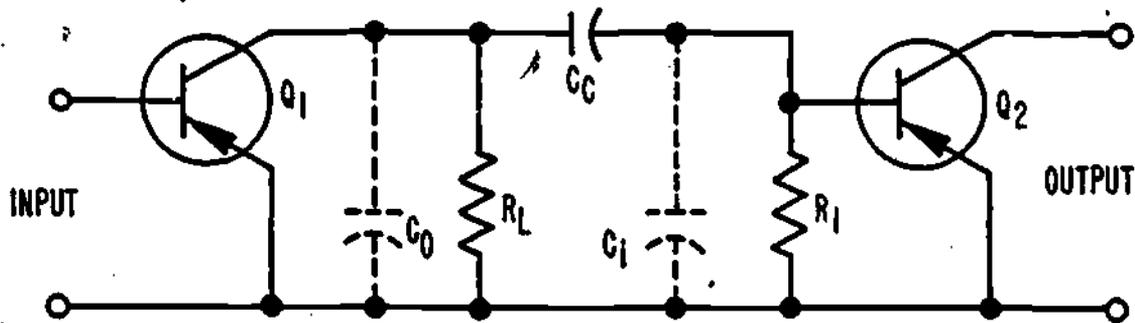

Figure 11
10. How do stray capacitors limit gain at high frequencies? Refer to the amplifier circuit shown in Figure 11.
In Figure 11, the (high/low) reactances of  $C_o$  and  $C_i$  shunt the high signal frequencies to ground.